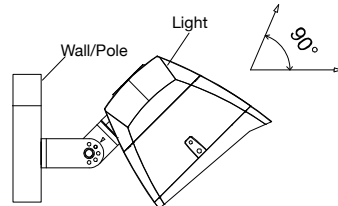

Figure 11
STEP 3: Connect the fixture to the bracket and tighten the screws; connect the wires properly (FIGURE 11)
NOTICE: Adjustable angle is 0~±194° (FIGURE 11)